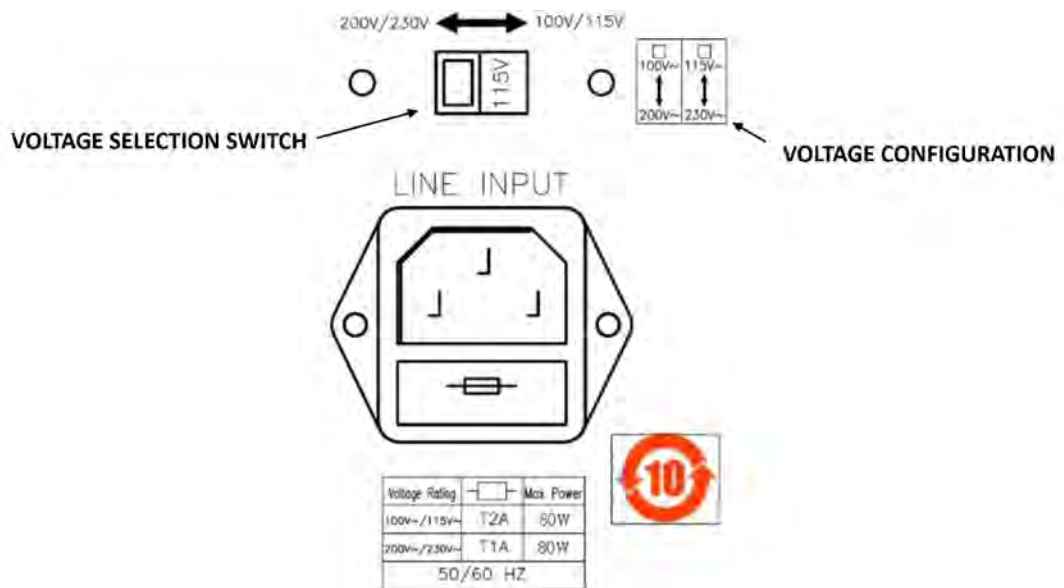

Figure 5-1: AC Input Voltage Selection
2. Refer the drawing on the rear panel of 5L Series load in Figure 5-1, set the switches to the proper voltage as indicated below.